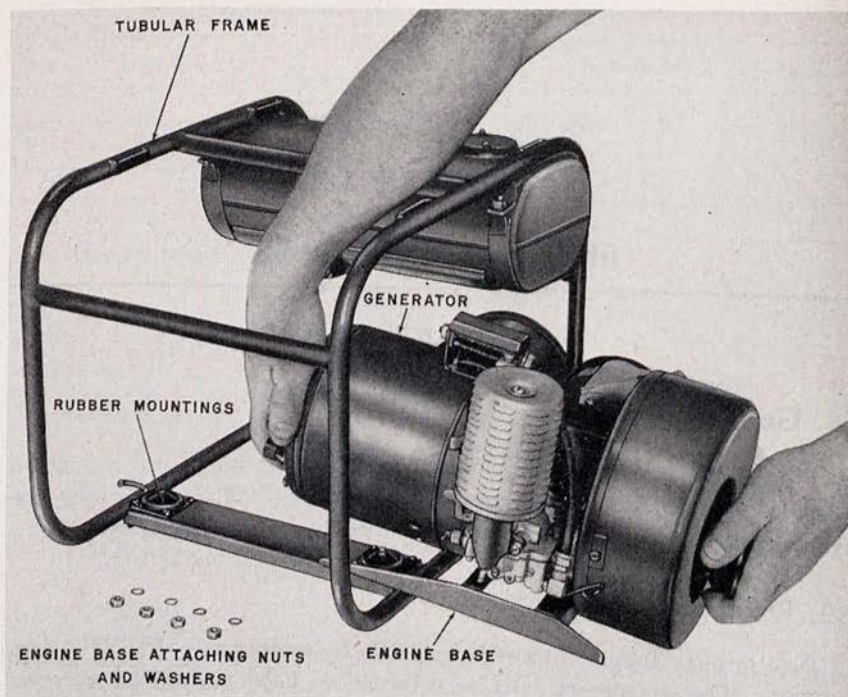

Figure 20. Removing engine and generator from frame.
- (2) Remove the nut and washer from each stud that holds the engine base to the rubber-shock mountings (fig. 20). Separate the engine and generator from the frame.